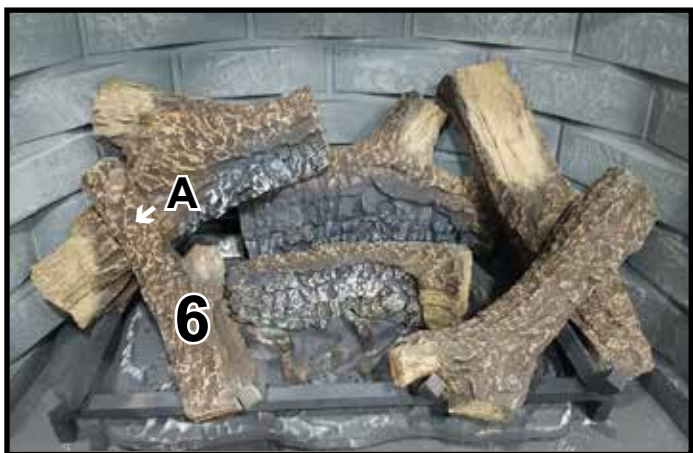

Figure 7
STEP 6. LOG #6 (SRV2106-706): Rest bottom notch of log #6 on the grate tine and the top part on formed section of log #5 (A). See Figure 7.